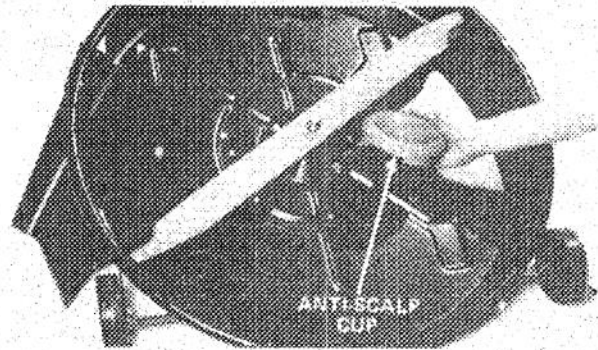

Figure 25
5. Turn cutting unit on its side, grasp the end of the blade with a rag or thickly padded glove; then remove the locknut, anti-scalp cup and blade (Fig. 25).
9. In sequence, install blade, anti-scalp cup and locknut (Fig. 25). Tighten locknut to 50-60 ft/lb (68-81 N·m).
IMPORTANT: Make sure blade sail is facing top of mower housing and cutting edge of blade is away from top of mower housing (Fig. 25). While lock nut is tightened, move blade slightly so it seats between sides of blade retainer.